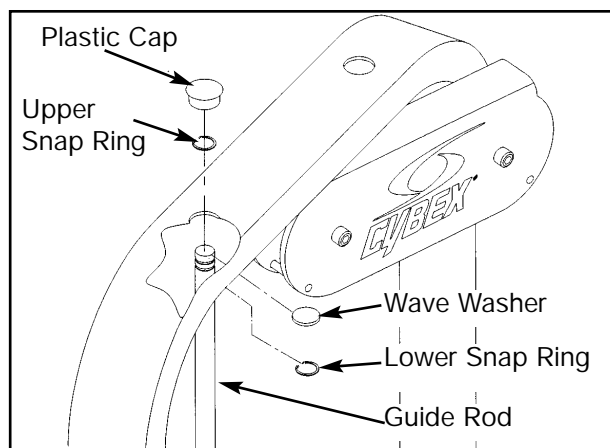

Figure 2
- B. Remove the plastic cap on guide rod hole by gently lifting guide rod up and down until plastic cap is forced off. Repeat this step for the other guide rod. See Figure 2.
- C. Raise guide rod high enough to expose the upper snap ring. Using an external snap ring pliers, remove snap ring and lower guide rod. Then remove the lower snap ring and wave washer. Repeat this step for the other guide rod. See Figure 2.
NOTE: For the Hip Abduction, Hip Adduction and Rotary Calf machines, lean guide rod away from the weight stack guard. See Figure 2.